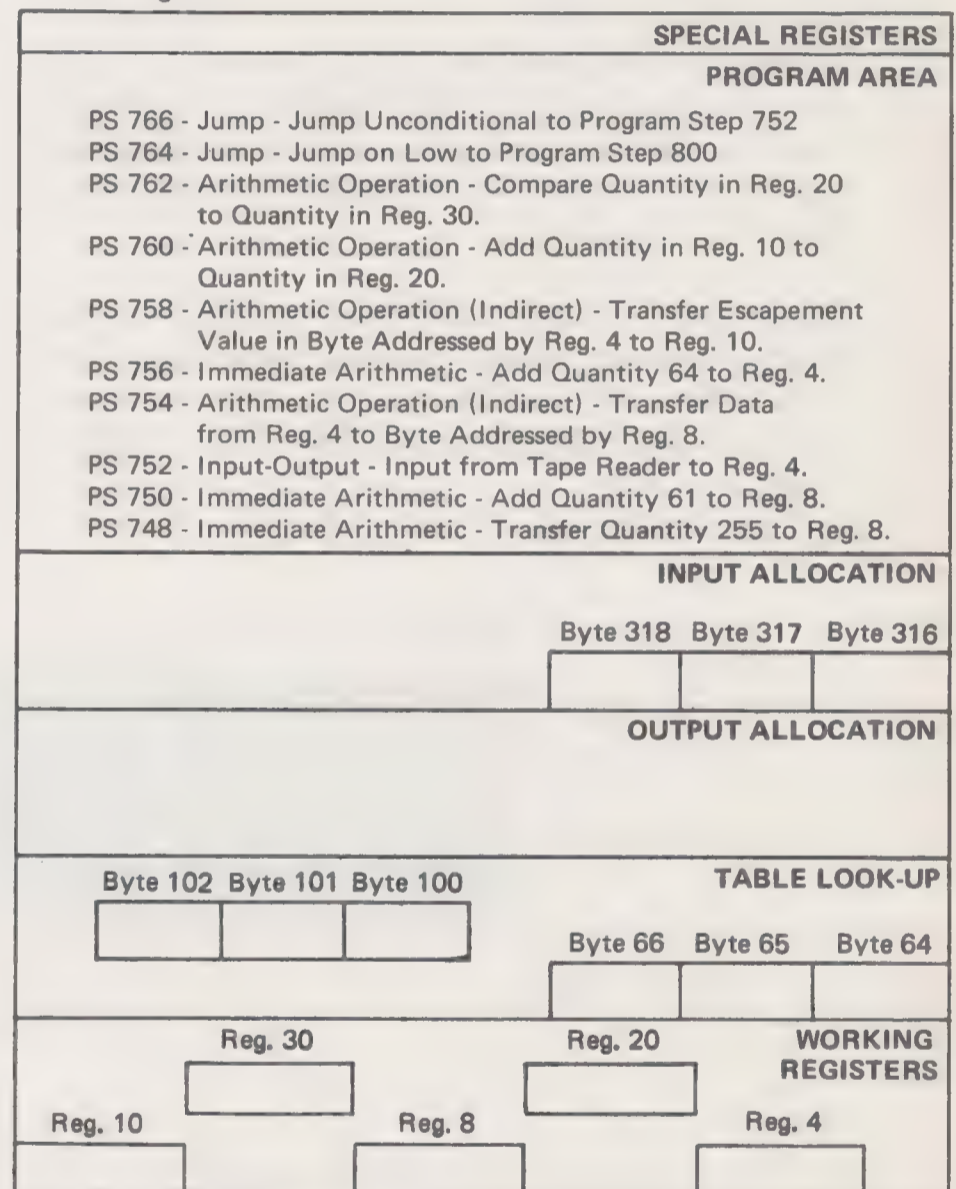
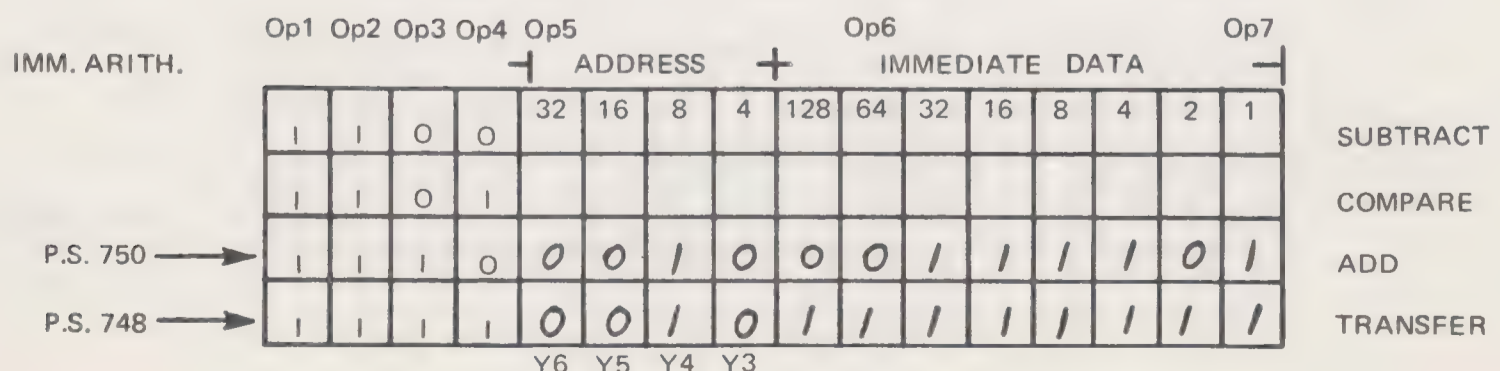

Figure 2
Figure 3
- Let's assume the first step in the justify program is step 748 (see Fig. 2). Before accepting a character from the tape, we must first set up a condition that will tell us where to put the character. We always want the first character read to appear in the first Byte of the input block in memory (byte 316). We must install this quantity (316) somewhere in memory and use it as an address. Two steps will be required to set the address. Both steps will be Immediate Arithmetic operations. The Immediate Arithmetic step appears in memory as shown in Fig. 3.